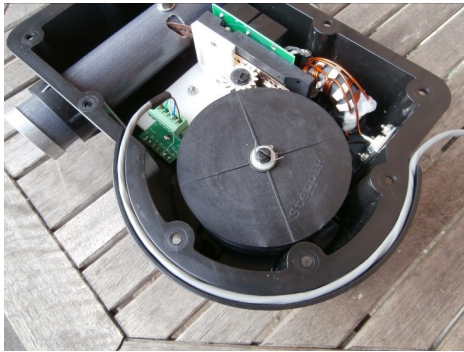

Figure 1.15
9. Lay the control cable wire inside the wire tray of the EHU as shown in **figure 1.15**. This trough acts as a strain relief so that the cable will not be pulled out of the EHU. It is a good idea to leave a small amount of slack between the plug and the point which the tray starts as shown in **figure 1.16**.